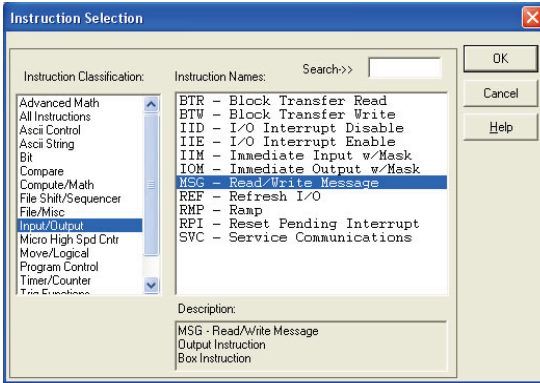

Figure 80: MSG Instruction Selection
- d) Select the "MSG" instruction from the "Input/Output" classification, then click OK. Refer to Figure 80.